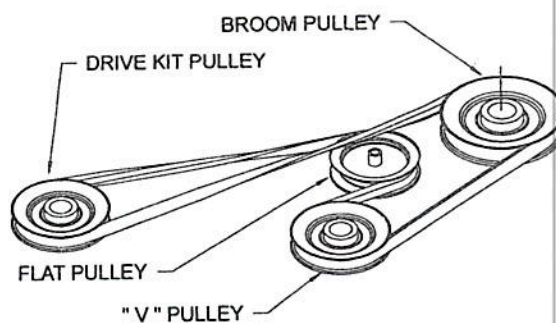

Figure 18
- c) Install the belt around the broom's pulley, route the belt on the "V" pulley, the back of the belt on the flat pulley and place the belt on the drive kit pulley. Verify that the belt is routed as shown in figure 18.